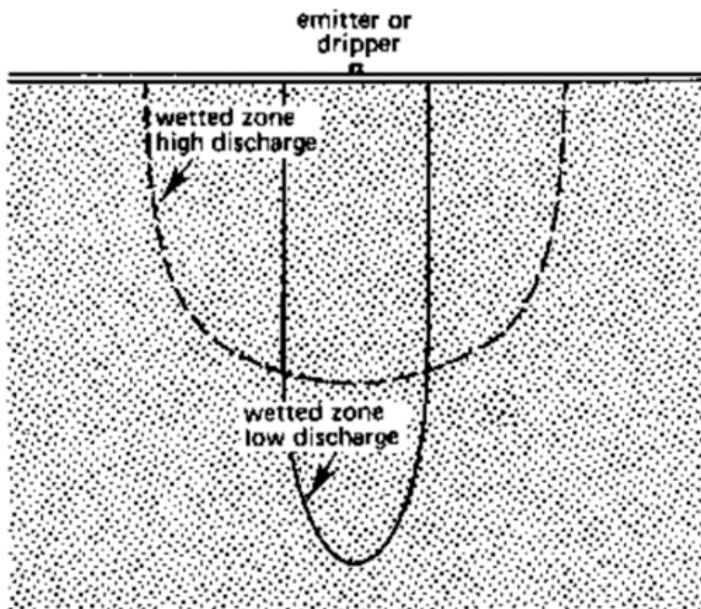
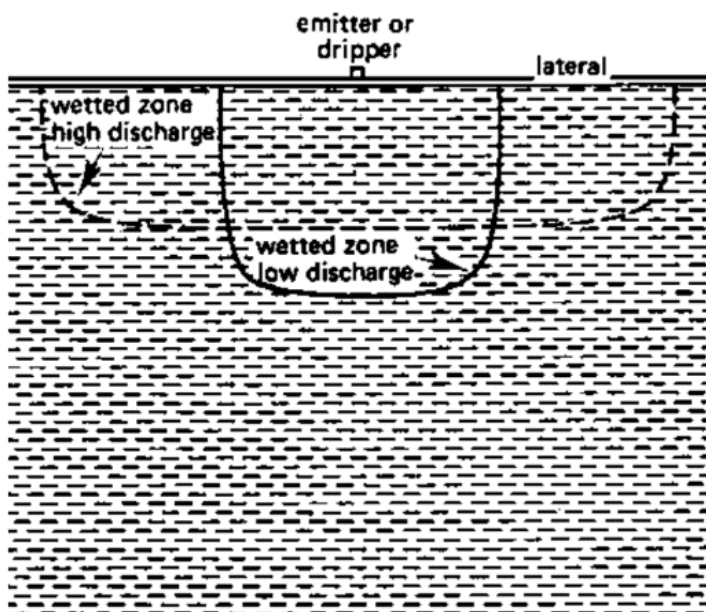

Figure 1. Wetting patterns for sandy soils with high and low flow-rate drip tapes.
Figure 2. Wetting patterns for clay soils with high and low flow-rate drip tapes. (Figure 1 and 2 were adapted from
At Pinney Purdue (PPAC) bell peppers were harvested for the first time on August 15. Plants appear a little larger in the irrigated plots than in the unirrigated plots, but it is not obvious in photographs (Figure 1). Similar to what was observed at SWPAC, blossom end rot (BER) was much more common in the unirrigated treatment than in the two irrigated treatments (Figure 2). More than half of the fruit from the unirrigated plot had BER, and only 5% to 8% of fruit in the irrigated treatments had BER.
Figure 1. Pepper plots in irrigation demonstration plots at Pinney Purdue Ag Center at the time of first harvest on 8/15/2022. Treatments were 1) no irrigation, 2) irrigation based on evapotranspiration estimates for tomatoes, and 3) irrigation based on soil moisture sensors installed in tomato section of bed.
Figure 2. Cull and marketable fruit harvested from unirrigated pepper plants, or from plants irrigated based on evapotranspiration (ET) estimates or soil moisture sensor measurements. First harvest on 8/15/2022 of 'Tarpon' pepper transplanted on June 6, 2022. Unreplicated demonstration at Pinney Purdue Ag Center, Wanatah, IN. 21, 15, and 20 plants harvested in unirrigated, ET-based, and sensor-based treatments, respectively.
action when dripped onto the soil. Fine-textured soil has a greater ability to hold and retain water than coarse-textured soil. Thus, water is more likely to move horizontally in clay soils than in sandy soils. Water discharge rate of drip tapes also affects the wetting pattern. In general, water is more likely to move horizontally with high flow-rate (high discharge) drip tapes than low flow-rate (low discharge) drip tapes (Figure 1 and 2).
1991-2020 normal. The largest temperature departures were observed in central and southern Indiana, where departures were up to 2.1°F below normal. After a warm, wet beginning to August, month-to-date temperatures (Figure 1) remained slightly above normal through August 23 (0.6°F above normal). Daytime high temperatures in south-central and southern Indiana were cooler than normal (Figure 2, Left) while overnight lows were 1-3°F warmer than normal (Figure 2, Right). From April 1-August 24, Modified Growing Degree Days continued to run 102 percent of normal for the state. Central and southern Indiana has the highest Modified Growing Degree Day departures (Figure 3).
Figure 1. August 1-23, 2022 climate division and state average temperatures, normal temperatures, temperature deviations, average precipitation, normal precipitation, precipitation deviations, and percent of normal precipitation compared to the 1991-2020 climatological averages.
Figure 2. Left - Average maximum temperature in degrees Fahrenheit for August 1-23, 2022, represented as the departure from the 1991-2020 normal temperature during that period. Right - Average minimum temperature in degrees Fahrenheit for August 1-23, 2022, represented as the departure from the 1991-2020 normal temperature during that period.